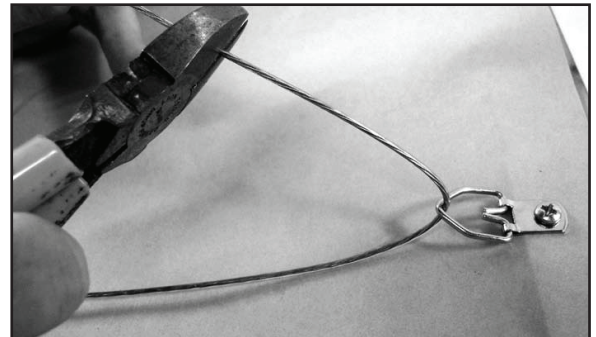

Fig.4
3. Remove nose piece and discard jammed point (**Fig. 4**)
4. Using water in a spray bottle, completely dampen Kraft paper evenly. As water dries, the paper will shrink tight. **(Fig. 4) NOTE:** Use a hairdryer to decrease drying time.
Stretch the wire across through the other D-Ring allowing 3-5 inches of excess, use a finger to pull up slightly in the center of the wire to create some slack in the middle of the wire and repeat the tying and coiling process. (**Fig. 4**)